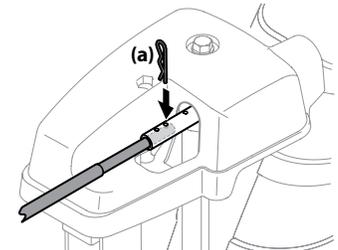

Figure 2-40
6. Push chute control rod toward the control panel until hole in rod lines up with middle hole in chute control input and insert cotter pin (a) removed in Step 1. See Figure 2-40.